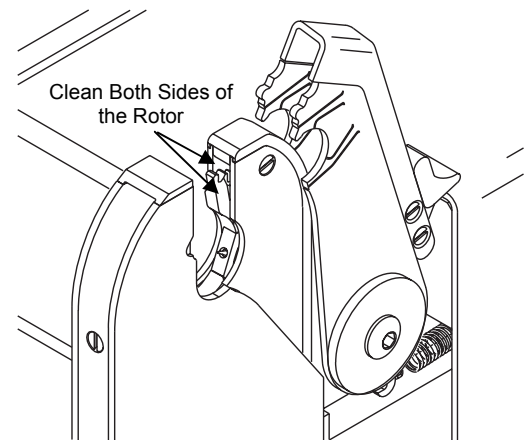

Figure 41 *Jogging and Cleaning Both Sides of the Rotor*
3. Incrementally jog the rotor and clean both sides of the rotor with a swab and isopropyl alcohol. See Figure 41.